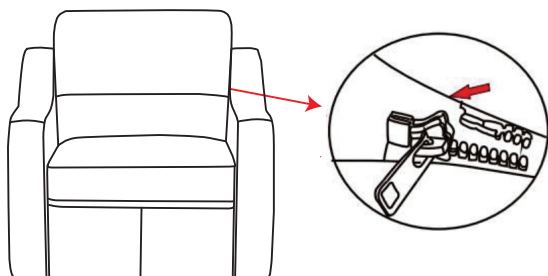

Figure 3
Zip the fabric on the Back Cushion (A) with the back of the Seat (B). (See Figure 3.)